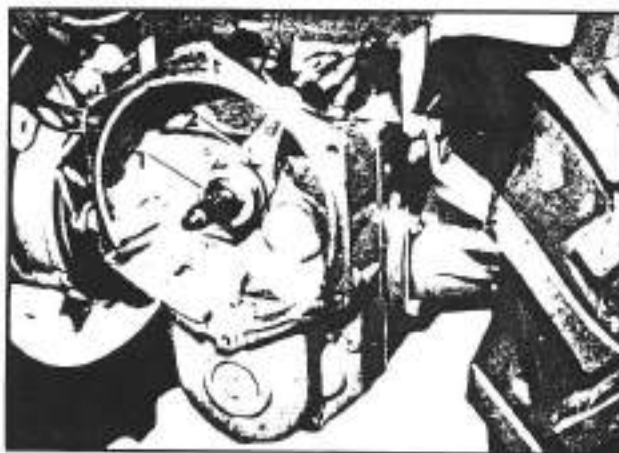
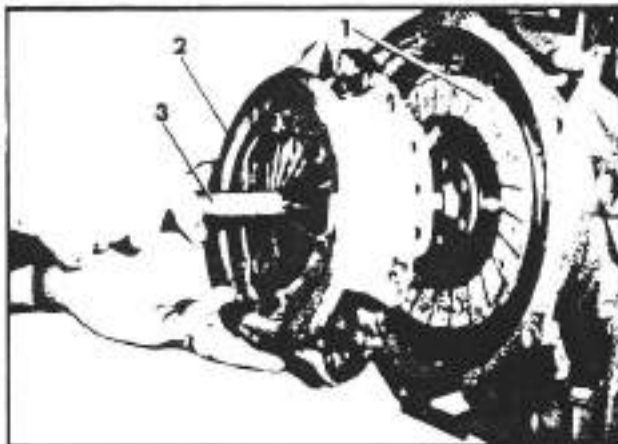

Fig. 3-2. Removal of the clutch fork and bearing
Fig. 3-3. Mounting the spring disk
much care in order to avoid damage to or rapid wear of the thrust bearing (1; fig. 3-2) and of the clutch disk (1; fig. 3-3). It is absolutely necessary to center the clutch disk (1; fig. 3-3) and the spring disk (2; fig. 3-3) before inserting and tightening the bolts.
In order to perform this operation correctly, it is necessary to have for centering a spare main shaft (3; fig. 3-3).
- Remove the thrust bearing (1; fig. 3-2) and the clutch fork (2; fig. 3-2).